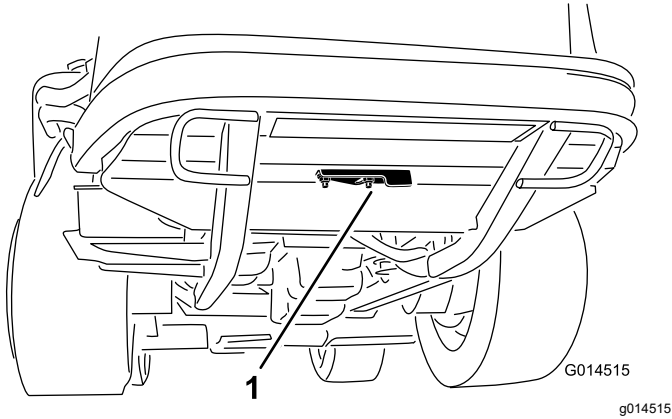

Figure 45
- Loosen the flange nut securing the clean-out cover to the underside of the rear frame (Figure 45). Rotate the cover to the side to expose the clean-out hole in the frame.